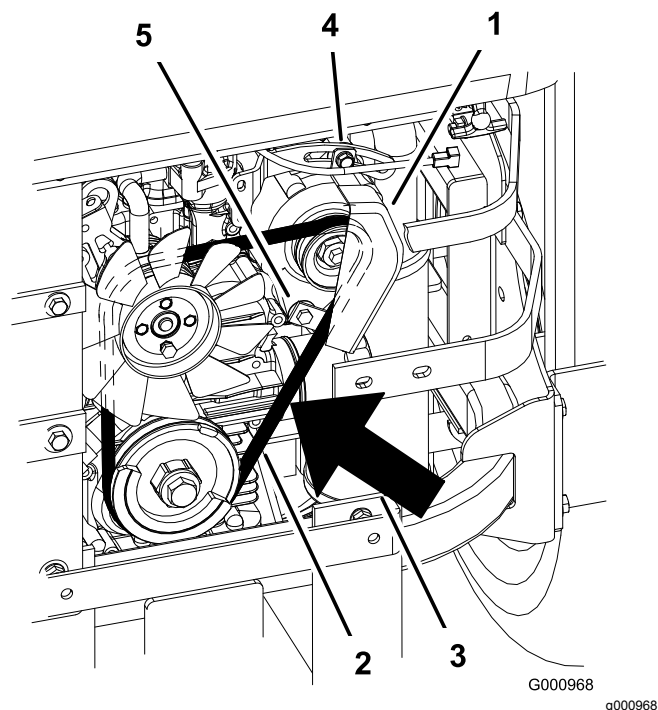

Figure 80
7. Loosen the bottom bolt and remove the upper bolt holding the alternator and cover (Figure 80).
9. Install a new belt around the pulleys and the alternator (Figure 80).
14. Tighten the bottom bolt and install the upper bolt holding the alternator and cover (Figure 80).
2. Adjust the alternator to the outside until there is 7 to 9 mm (1/4 to 11/32 inch) deflection in the belt between the engine and the alternator pulleys with 10 kg (22.1 lb) of force (Figure 80).
5. If the deflection is correct, tighten the bottom and upper bolt (Figure 80).